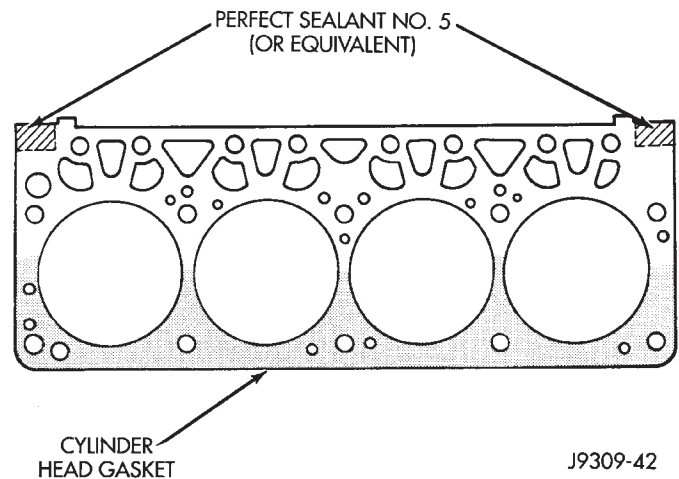
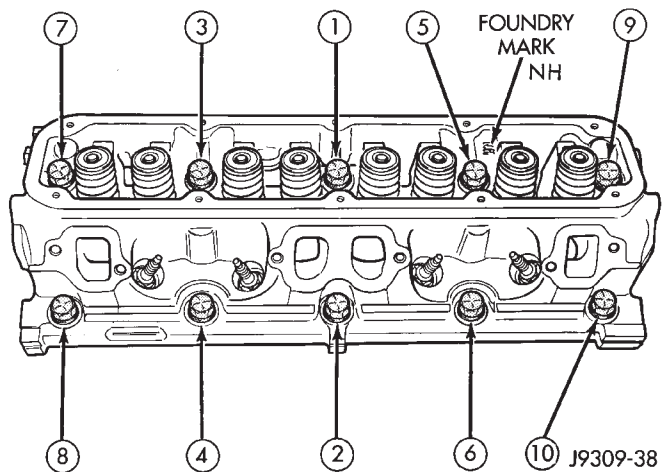

Fig. 10 Sealant Location on Cylinder Head Gasket
Fig. 11 Cylinder Head Bolt Tightening Sequence
- (1) Apply Perfect Sealant No.5, or equivalent, to both sides of the gasket (Fig. 10),
- (2) Position the new cylinder head gaskets onto the cylinder block.
- (3) Position the cylinder heads onto head gaskets and cylinder block.
- (4) Starting at top center, tighten all cylinder head bolts, in sequence, to 68 N•m (50 ft. lbs.) torque (Fig. 11). Repeat procedure, tighten all cylinder head bolts to 143 N•m (105 ft. lbs.) torque. Repeat procedure to confirm that all bolts are at 143 N•m (105 ft. lbs.) torque.